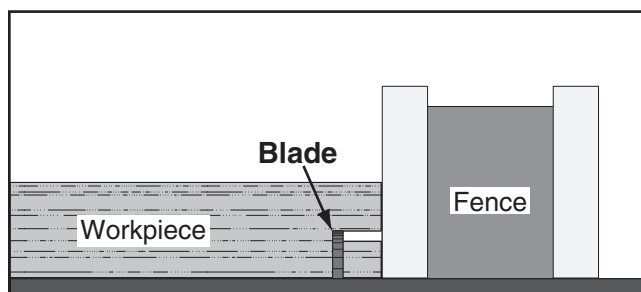

Figure 63. Example of second cut to create a rabbet.
7. Lay workpiece flat on table, as shown in **Figure 63**, adjust saw blade height to intersect with first cut, then perform second cut to complete rabbet.